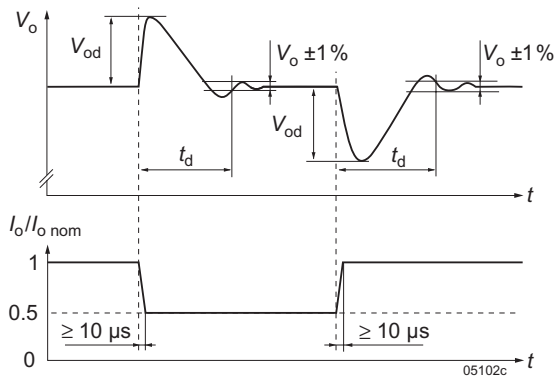

Fig. 13
² See *Dynamic load regulation (fig. 13)*
- ⁴ See *Dynamic load regulation (fig. 13)*